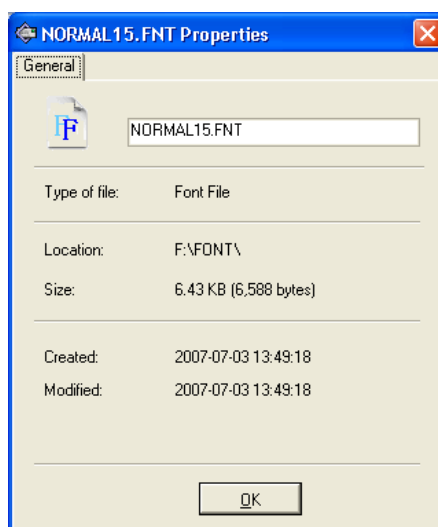

Fig. 6.15 Properties of font
*Properties:* it shows the information such as the size and foundation date of the file, etc. Please see the Fig.6.15, it is the properties of that font file. And users can see the properties of display files too.